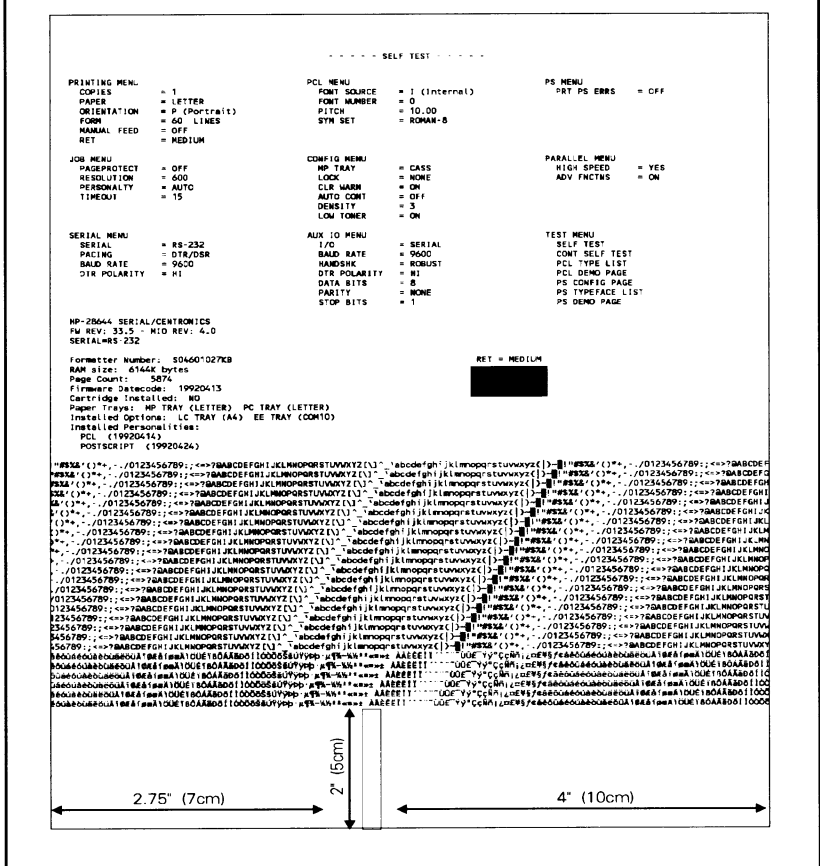

Figure 7-9 PS5 Test Sheet
- 1 Make a test sheet by cutting a notch in the trailing edge of a sheet of paper as shown in Figure 7-9.
- 3 The self test print should stop 2 to 5 mm above the notch (see Figure 7-9).